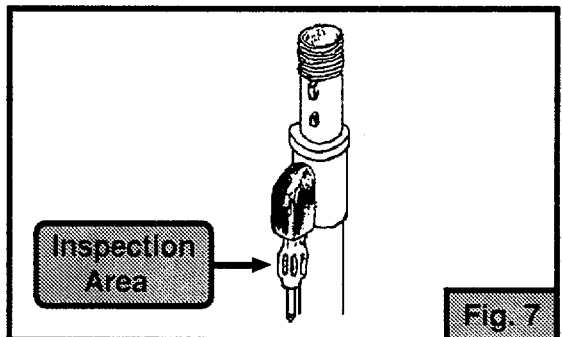

Fig. 7
7. Inspect the antenna cable connection and clean as necessary (Fig. 7). Reconnect the antenna cable, the wire harness and the drain hose.